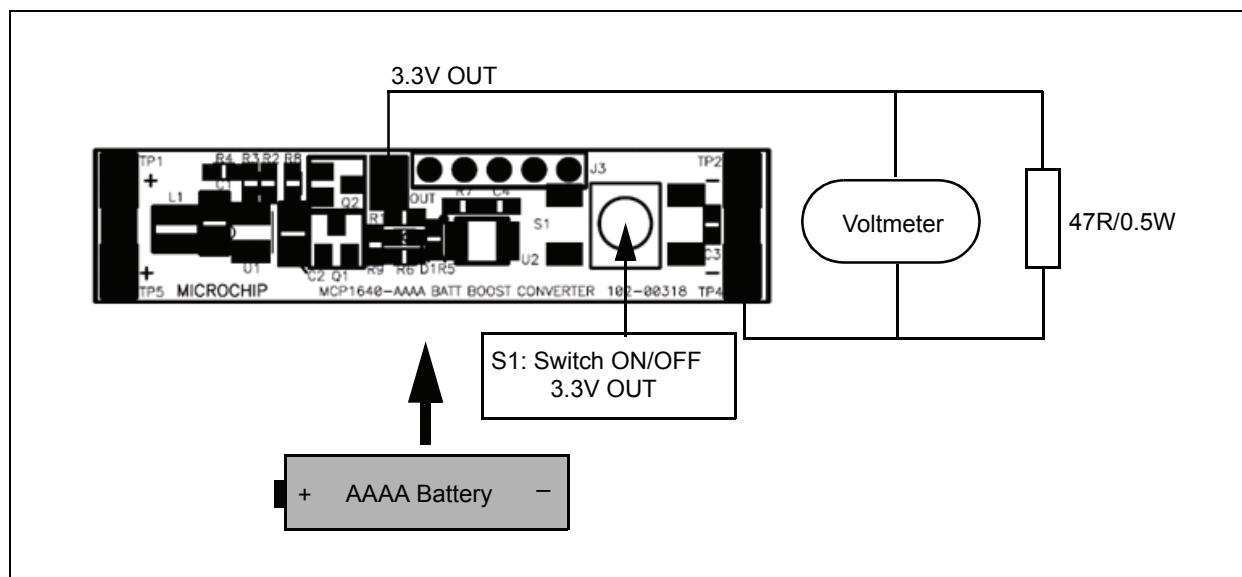

FIGURE 2-2: MCP1640 Single Quadruple-A Battery Boost Converter Reference Design Setup Circuit.
2. Connect a voltmeter and a $47\Omega/0.5W$ resistor, between “OUT” and “–” connectors, as shown in Figure 2-2.